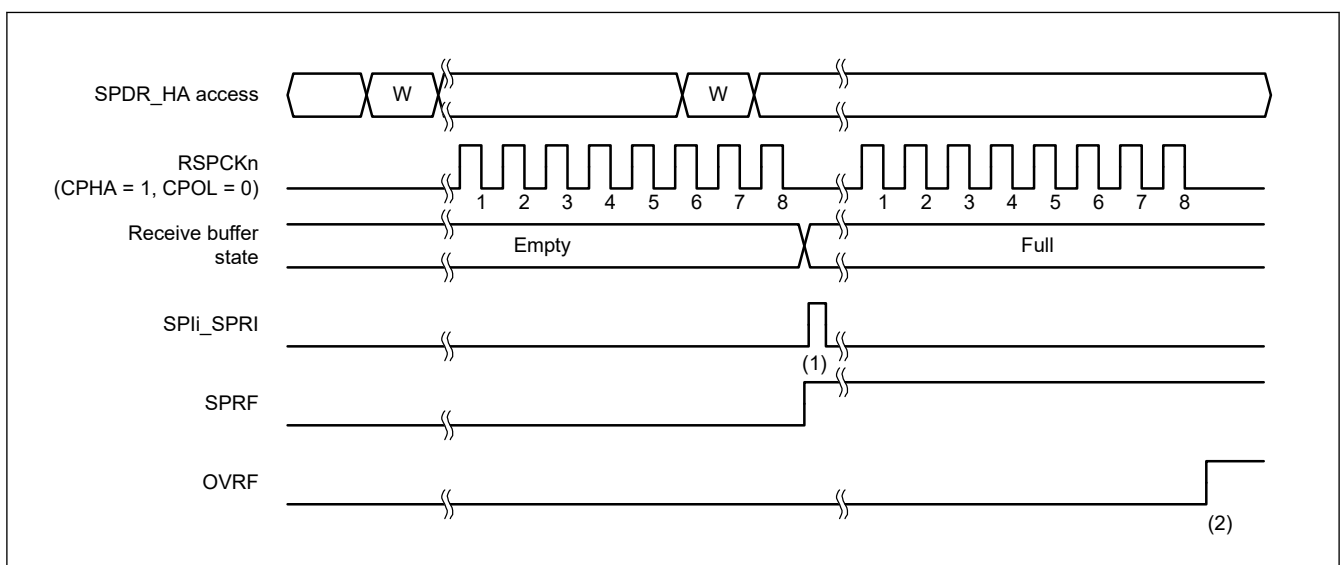
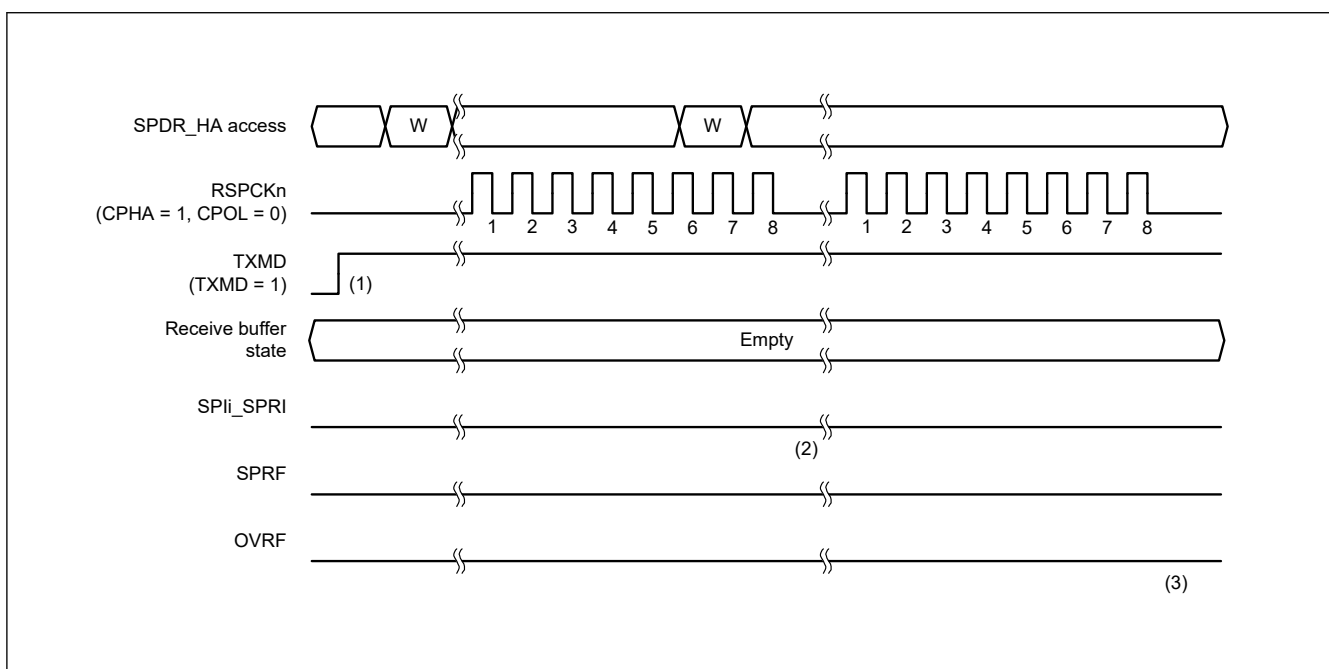

Figure 26.22 Operation example when SPCR.TXMD = 0
Figure 26.23 Operation example when SPCR.TXMD = 1
Full-duplex synchronous serial communications or transmit operations can only be selected in the Communications Operating Mode Select bit (SPCR.TXMD). The register accesses shown in Figure 26.22 and Figure 26.23 indicate the condition of access to the SPDR/SPDR_HA register, where W denotes a write cycle.
Figure 26.22 shows an example of operation when the Communications Operating Mode Select bit (SPCR.TXMD) is set to 0. In this example, the SPI performs an 8-bit serial transfer when the SPCMD0.CPHA bit is 1, and the SPCMD0.CPOL bit is 0. The numbers given for RSPCKn in the waveform represent the number of RSPCK cycles, such as the number of transferred bits.
The operation of the flags at timings (1) and (2) in Figure 26.22 is as follows:
Figure 26.23 shows an example of operation when the Communications Operating Mode Select bit (SPCR.TXMD) is set to 1. In this example, the SPI performs an 8-bit serial transfer when the SPCMD0.CPHA bit is 1, and the SPCMD0.CPOL bit is 0. The numbers given for RSPCKn in the waveform represent the number of RSPCK cycles, such as the number of transferred bits.
The operation of the flags at timings (1) to (3) in Figure 26.23 is as follows: